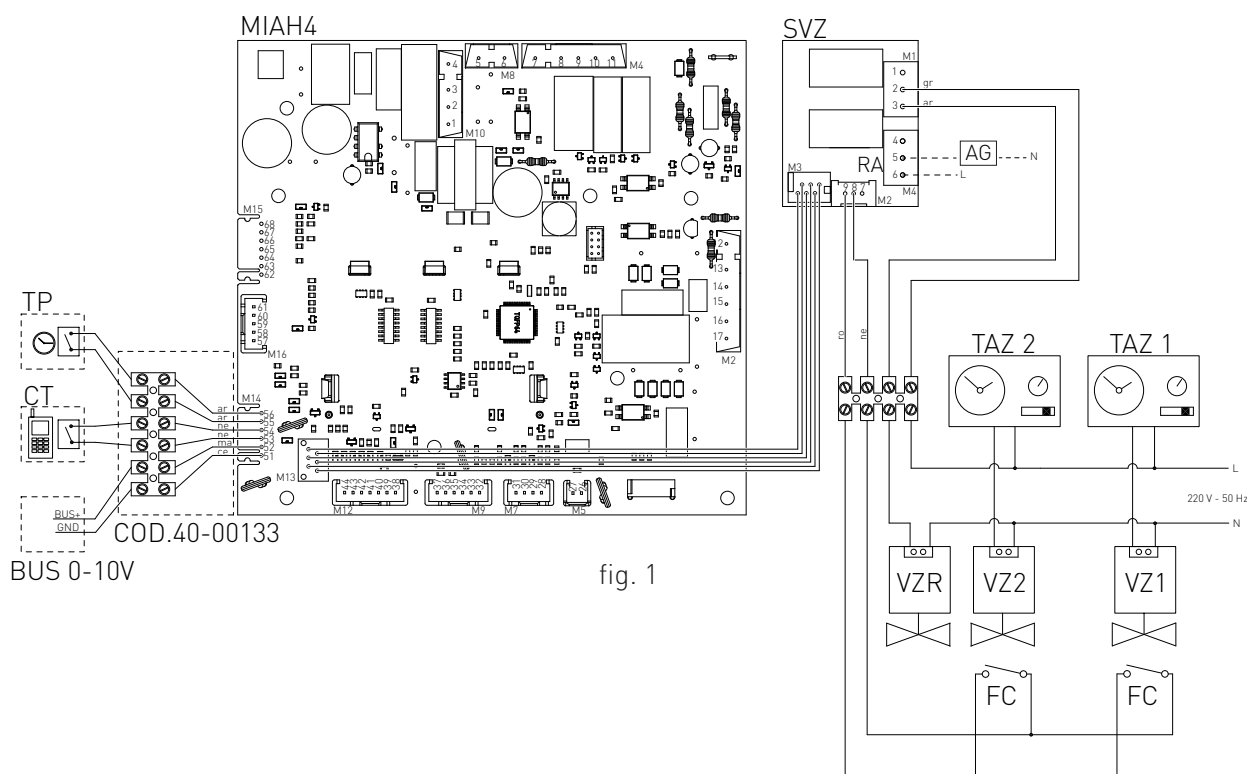

fig. 1
To connect the boiler's power supply, operate on the "SPM" male plug (see fig. 1), located under the boiler template, following the below instructions:
- › disconnect the "SPM" male Plug and make the connections (see fig. 1).
operate on the "SPM" male plug (see fig. 1), located under the boiler template, following the below instructions:
- › disconnect the "SPM" male Plug and make the connections (see fig. 1):
› after removing the back plate, connect the items below to the electronic board (see fig. 1):